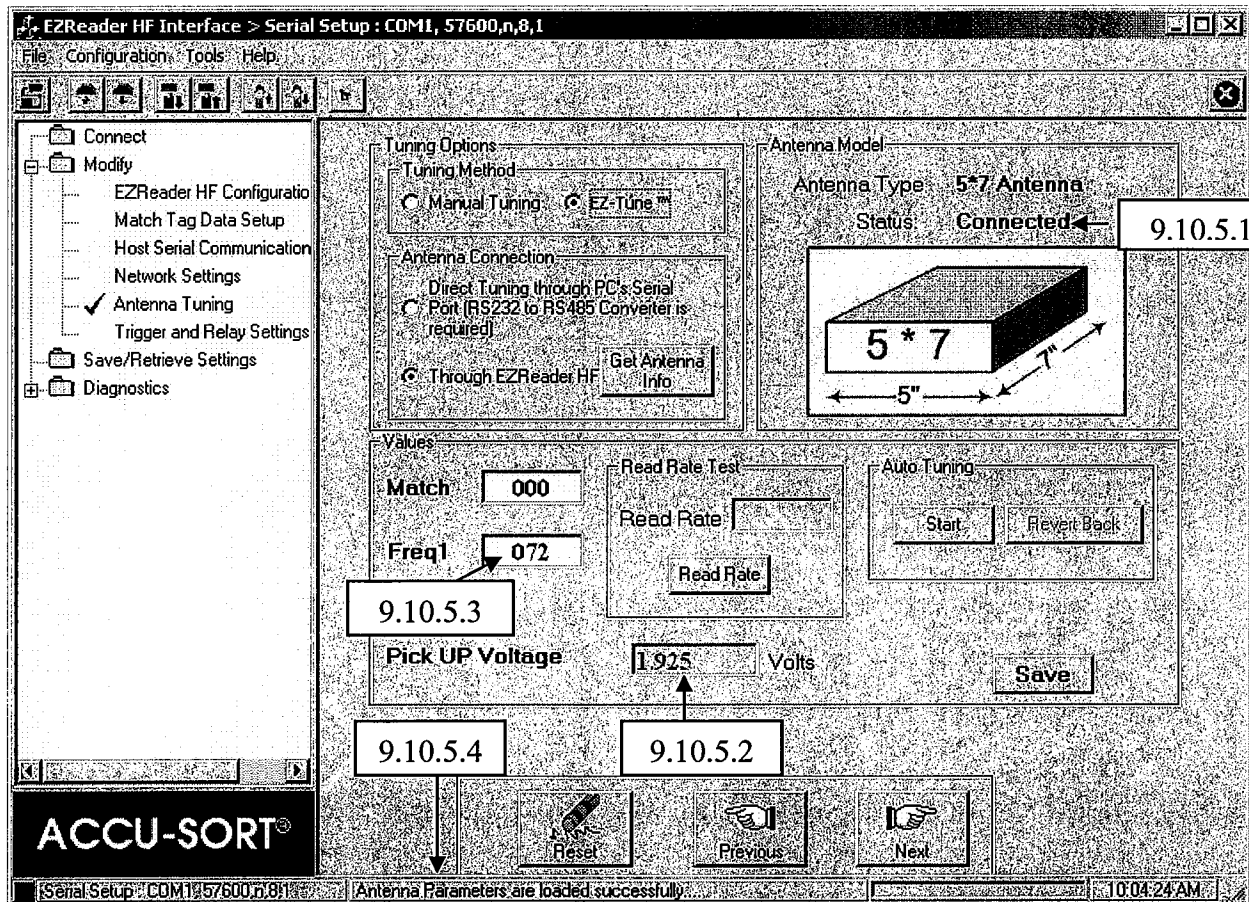

Figure 22
9.10.5 Click on the Modify Folder and then on Antenna Tuning, you should see a screen similar to that shown in Figure 22. Check the following: